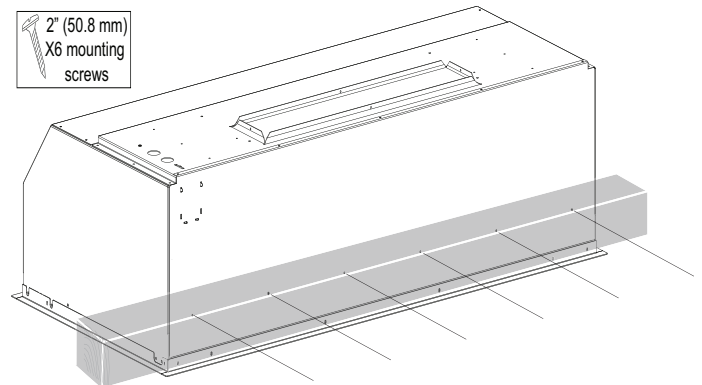

Figure 26: VCIN Rear Screws
- b) Secure to the rear of the housing framework using six (6) x 2” (50.8 mm) mounting screws, as indicated in Figure 26.